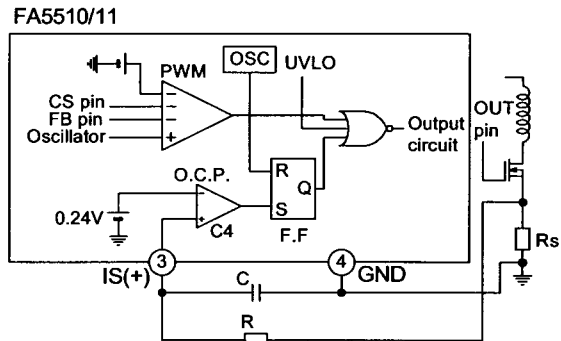
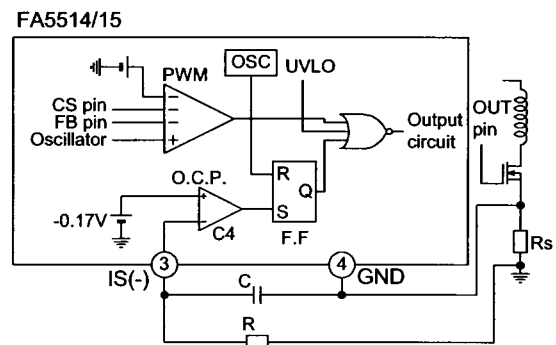
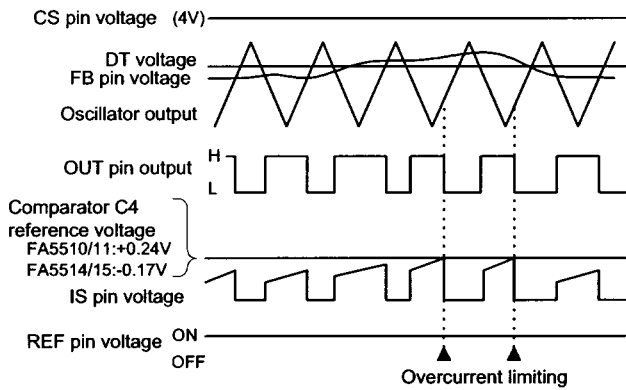

Fig.13 Overcurrent limiting circuit (FA5510/11)
Fig.14 Overcurrent limiting circuit (FA5514/15)
Fig.15 Overcurrent timing chart
**(4) Overcurrent limiting circuit**
The overcurrent limiting circuit detects the peak value of every drain current pulse (pulse by pulse method) of the main switching MOSFET to limit the overcurrent. The detection threshold voltage is +0.24V for FA5510/11 or -0.17V for FA5514/15 with respect to the ground as shown in Figure 13 and Figure 14. The drain current of the MOSFET is converted to voltage by resistor Rs and fed to the IS pin of the IC. If the voltage exceeds the reference voltage +0.24V (FA5510/11) or -0.17V (FA5514/15) of comparator C4, comparator C4 works to set flip-flop output Q to high. The output is immediately turned off to shut off the current. Flip-flop output Q is reset on the next cycle to turn on the output again. This operation is repeated to limit the overcurrent. If the overcurrent limiting circuit malfunctions due to noise, place an RC filter between the IS pin and MOSFET as shown in Figure 13 and Figure 14. (See item 12 in "Design advice.") Figure 15 is a timing chart that illustrates overcurrent-limiting operations.